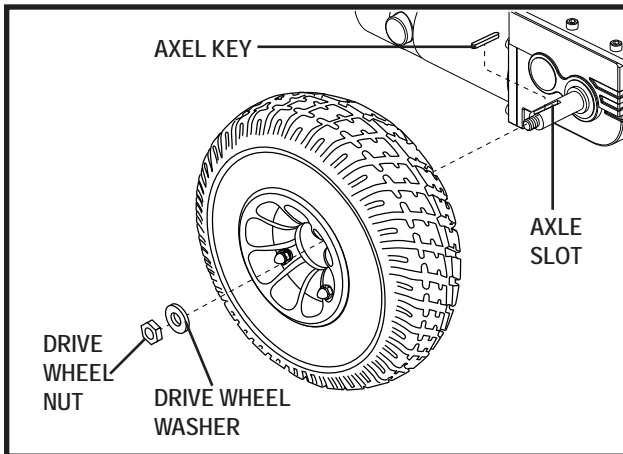

Figure 20. Quantum 610 Drive Wheel
4. Remove the drive wheel nut and washer from the axle. **See figure 20.**